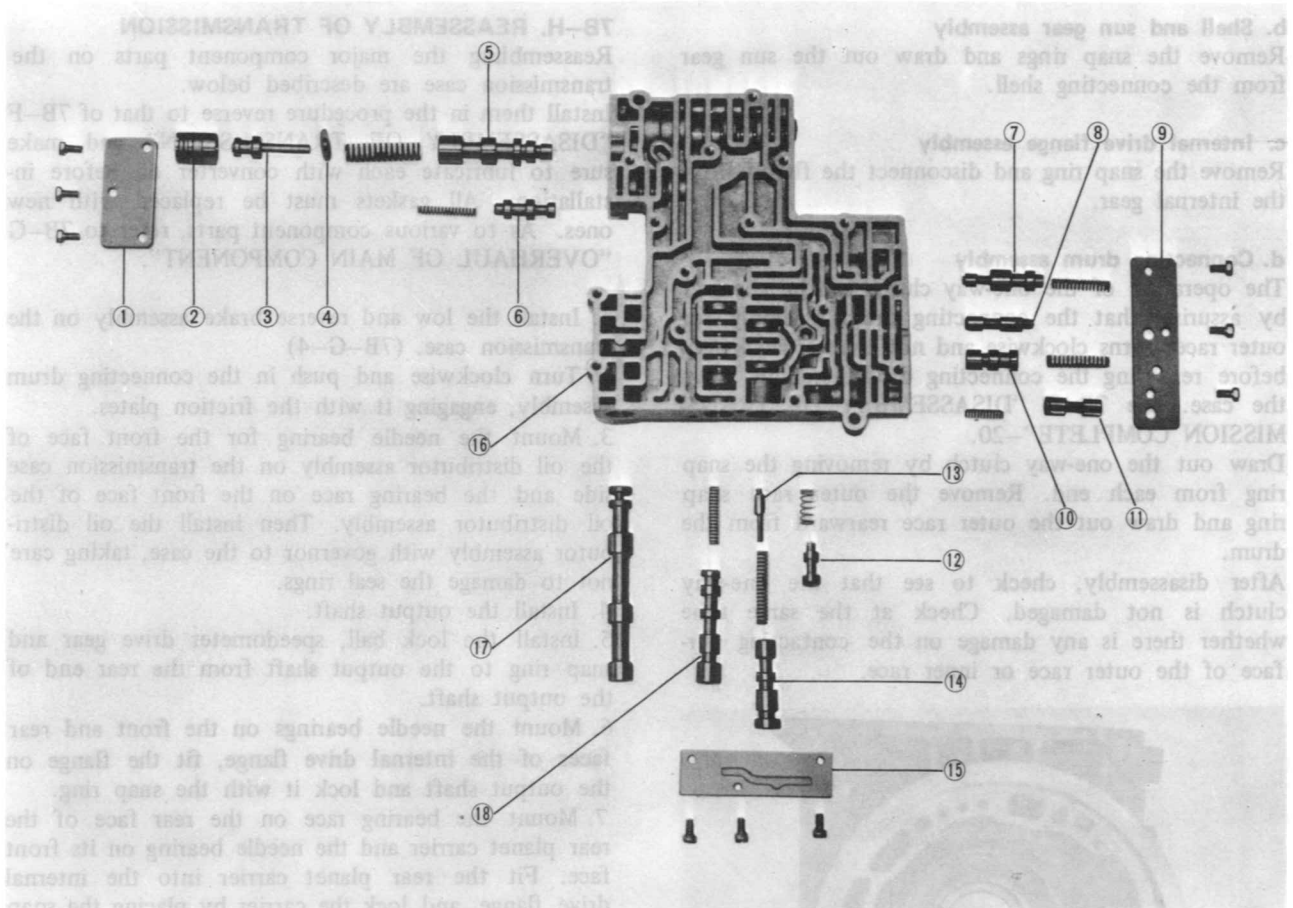

Fig. 7B-45 Component parts of control valve
- a. Install small valves and springs by referring to the components parts of control valve Fig. 7B-45.